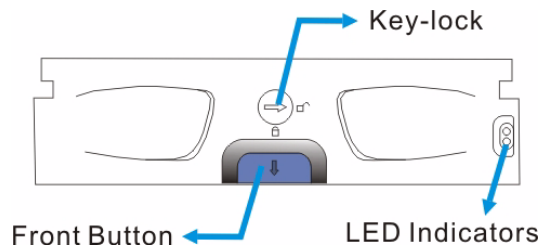

Fig. 2.8 Drive Tray Front View
The RAID subsystem comes with sixteen (16) drive trays (See *Figure 2.8*) designed to accommodate separately purchased standard 1-inch pitch, 3.5-inch disk drives. The drive bays are easily accessible from the front of the enclosure. Two (2) LEDs on the front of the tray indicate the drive status. A key-lock on each drive tray secures the hard drive in place, while an easily accessible button ensures fast and efficient drive hot-swapping.